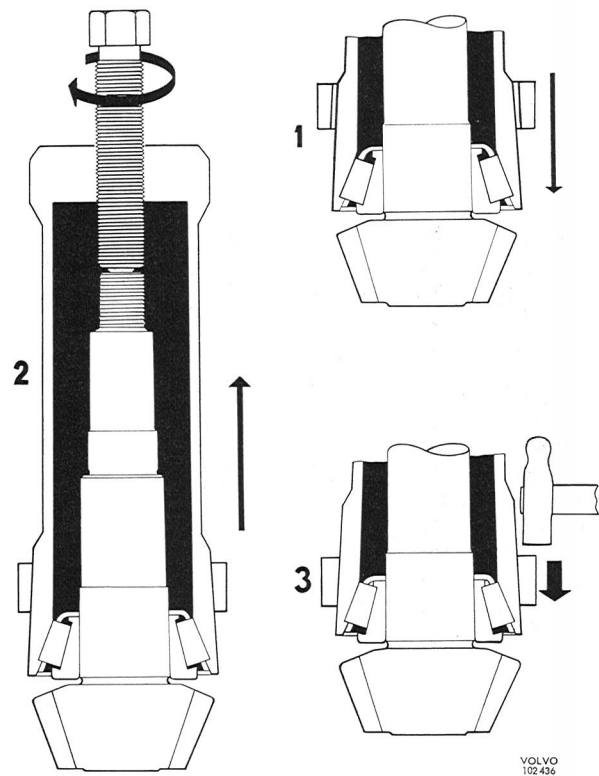
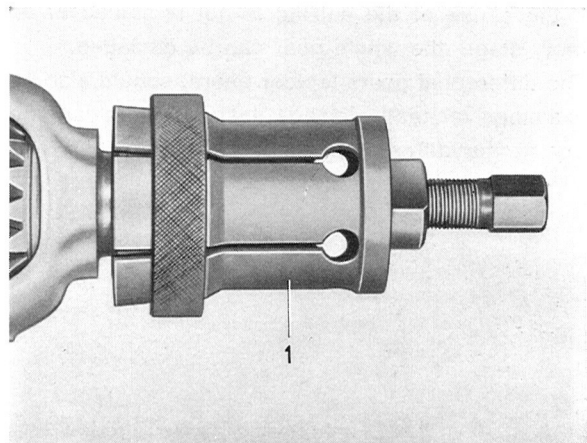

Fig. 4-158. Puller installation
Fig. 4-159. Removing differential carrier bearings
down the lock ring. Then pull up the puller with the bolt until the rollers lie flush with the edge of the inner race and the edge on the puller. Knock out the lock ring with a hammer. See also Fig. 4-158.
1. Pull off the differential carrier bearings with puller 2483, see Fig. 4-159. Do not remove the shims. How to install the puller, see Fig. 4-158.